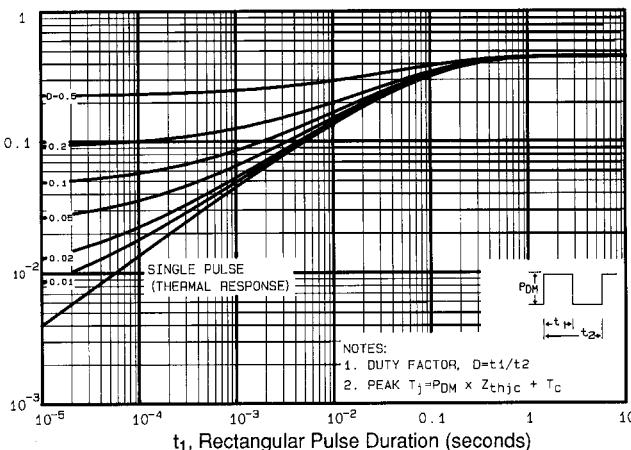

Fig 11. Maximum Effective Transient Thermal Impedance, Junction-to-Case
① Repetitive rating; pulse width limited by max. junction temperature (See Figure 11)
③ $I_{\text{SD}} \leq 23\text{A}$, $dI/dt \leq 170\text{A}/\mu\text{s}$, $V_{\text{DD}} \leq V_{(\text{BR})\text{DSS}}$, $T_J \leq 150^\circ\text{C}$
② $V_{\text{DD}}=50\text{V}$, starting $T_J=25^\circ\text{C}$, $L=4.0\text{mH}$